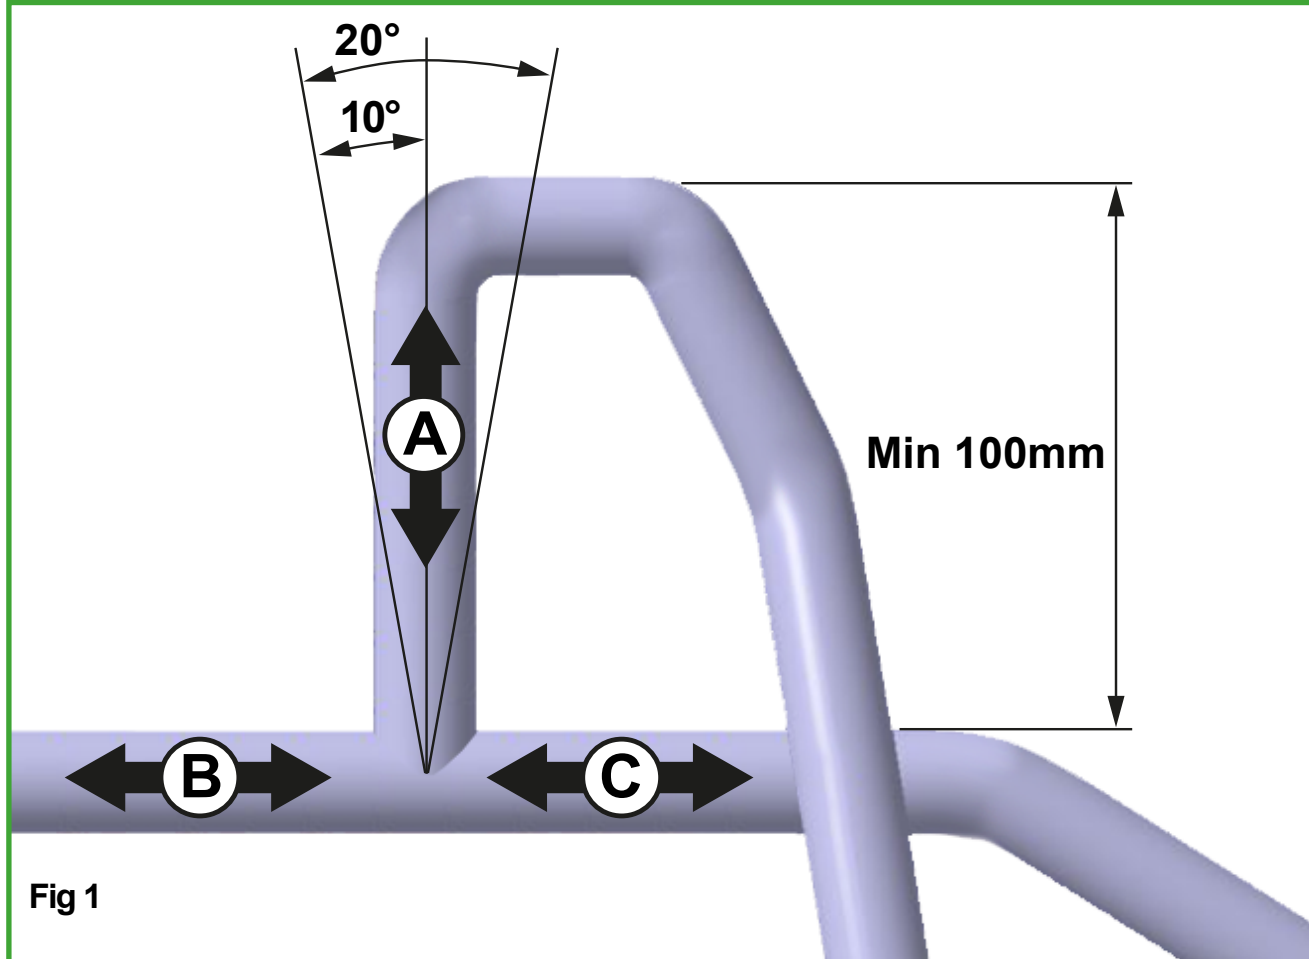

Fig 1
- To prevent liquid accumulation in the rear of the vehicle, a "candy cane" style connection is recommended on the Final Stage Manufacturers' AC lines that tie into the OEM system. Recommended minimum height is 100 mm and no more than 10 degrees from vertical. See Fig 1 overleaf.